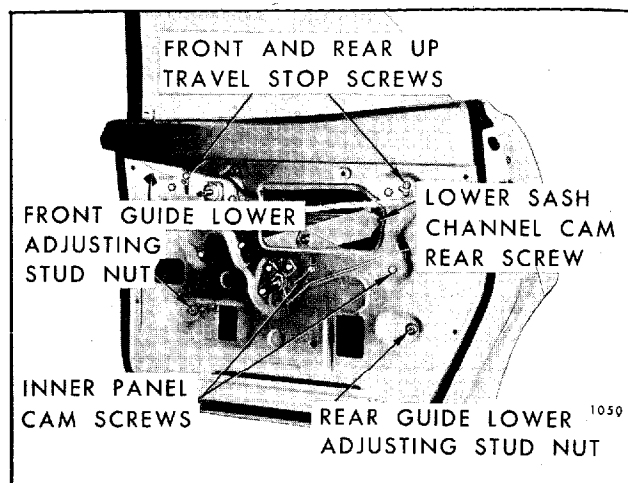

Fig. 7-149—Rear Door Hardware - "Z-39" Styles
1. To adjust the top of the window in or out in relation to the side roof rail, loosen the front and rear guide lower adjusting stud nuts (Fig. 7-149). Adjust studs in or out as required, then tighten stud nuts.
2. To adjust up-travel of window, loosen front and rear up-travel stop attaching screws (Fig. 7-149). Adjust window to desired position; then, while exerting a slight downward force on stops, tighten attaching screws.
3. To rotate glass in the opening (raise or lower upper front corner of glass), loosen inner panel cam attaching screws (Fig. 7-149). Adjust